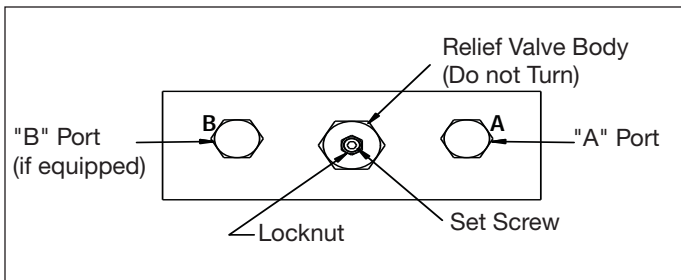

Figure 10, Adjustment Details
1. Install a 0-15,000 psi [0-1,035 bar] gauge in the "A" port (see Figure 10).